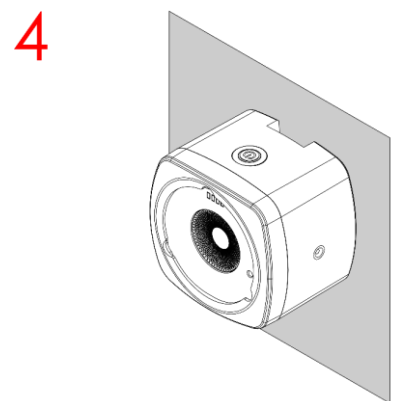

Fig. 12
- 01) Remove the **mounting bracket (05)** from the device.
- 02) Attach the device to a flat metal surface, as shown in Fig. 12. The built-in **magnet (13)** will hold the device into position.